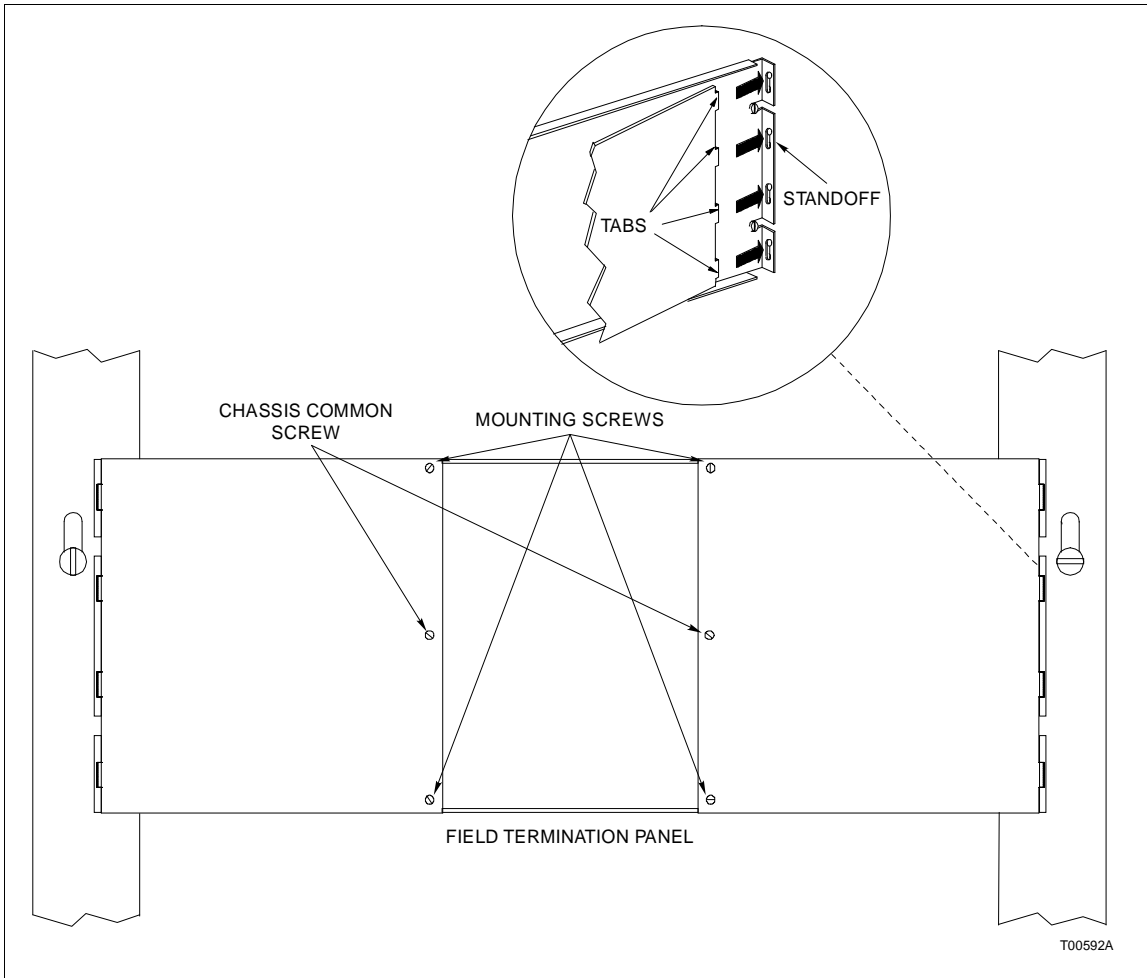

Figure 2-2. Mounting and Securing the TCL on the Field Termination Panel
1. Insert the tabs of the circuit board into the proper slots of the termination panel standoff as shown in Figure 2-2 and slide the circuit board into position.
2. Secure the termination unit circuit board to the field termination panel with two number 10 machine screws (see Figure 2-2).
3. Connect the chassis ground by installing a number 10 self-tapping screw and external star washer in the location shown in Figure 2-2.